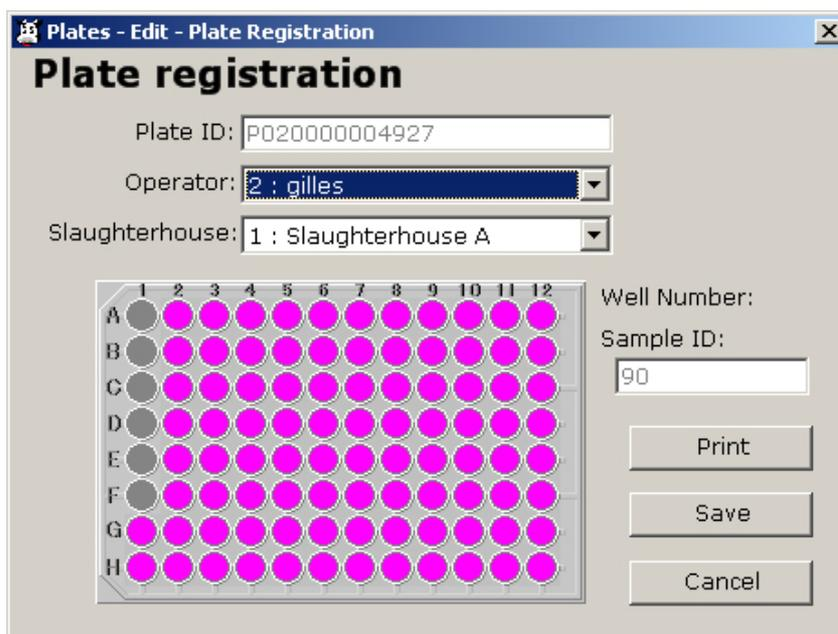

Fig. 5.2-3 : Plates menu
(3) The selected plate layout is displayed (Fig 5.2-3).